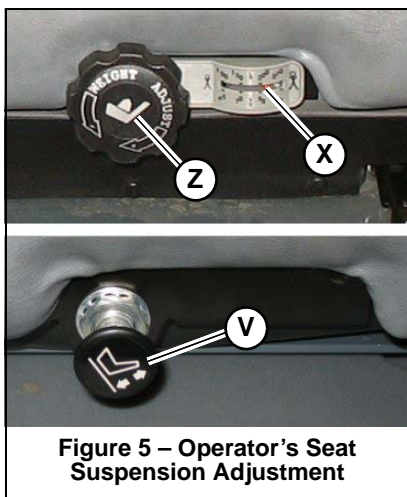

Figure 5 – Operator's Seat Suspension Adjustment
Mechanical suspension: While sitting in the operator's seat, rotate knob (Z, Figure 5) as necessary to adjust seat suspension so weight indicator (X) is set to the approximate weight of the operator.